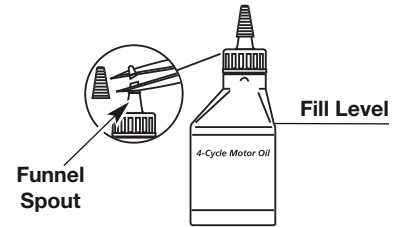

Fig. 6
Your unit is supplied with one 3.04 fluid oz. (90 ml.) bottle of SAE 30 SF, SG, SH oil (Fig. 6).
- Unscrew the top of the bottle of oil and remove the paper seal covering the opening. Replace the top. Next, cut the tip off the funnel spout (Fig. 6).